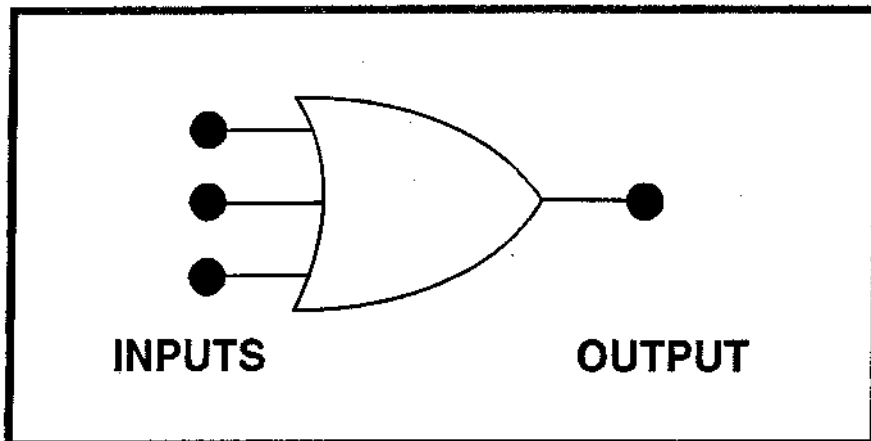

Fig. 9.15. Logic Gate.
87. (Refer to figure 9.15) Which statement concerning the depicted logic gate is true ?